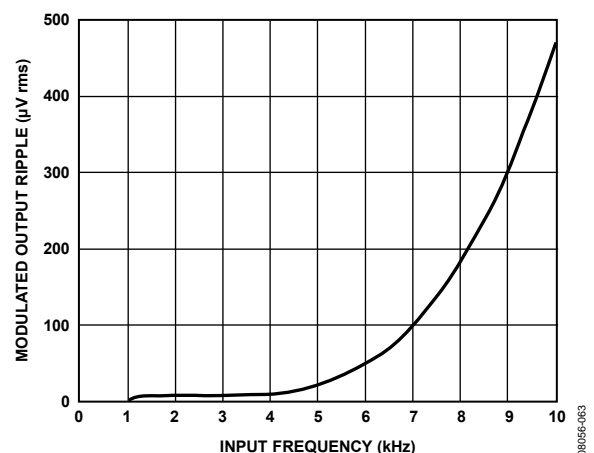

Figure 60. ADA4051-1/ADA4051-2 Modulated Output Ripple vs. Input Frequency
The remaining voltage ripple originates from two sources. The first type of ripple is due to the residual ripple associated with the initial offset of the Gm1. It is proportional to the magnitude of the initial offset and creates a spectrum at the chopping frequency (f_{CHOP}). When the amplifier is configured as a unity-gain buffer, this ripple has a typical value of $4.9 \mu\text{V rms}$ and a maximum of $34.7 \mu\text{V rms}$. The second type of ripple is due to the intermodulation between the high frequency input signal and the chopping frequency. This ripple depends on the input frequency (f_{IN}) and creates a spectrum at frequencies equal to the difference between the chopping frequency and the input frequency ($f_{\text{CHOP}} - f_{\text{IN}}$), as well as at frequencies equal to the summation of the chopping frequency and the input frequency ($f_{\text{CHOP}} + f_{\text{IN}}$). The magnitude of the ripple for different input frequencies is shown in Figure 60.
- No effect on the desired input signal as long as its frequency is much lower than the chopping frequency shown in Figure 60